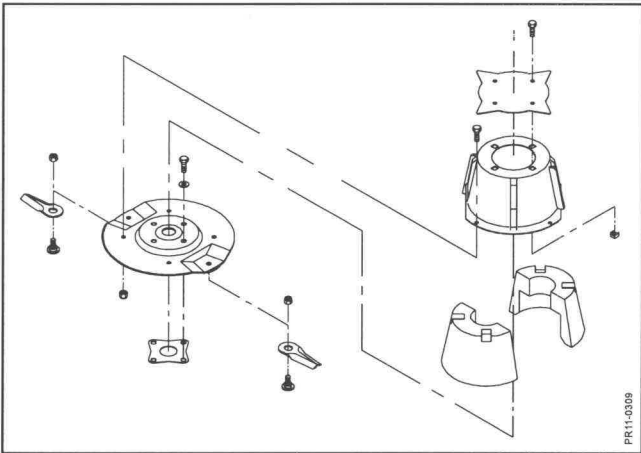

Fig. 6-6
- Fig. 6-6** The two flow intensifiers in the sides are filled with blocks of foam to avoid unbalance. It is important that the foam blocks remain undamaged so that the flow intensifiers are not filled with dust and dirt.